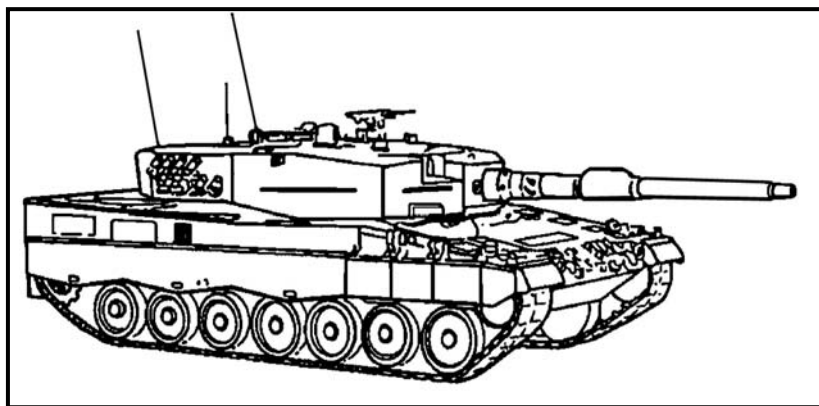

Figure H-2. German main battle tank, Leopard 2.
(2) **German Main Battle Tank, Leopard 2** (Figure H-2).